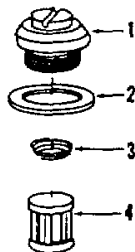

Fig. 5-16, F5183. Fuel filter screens
1. The standard automotive screen assembly mounts in top of fuel pump housing. Fig. 5-16.